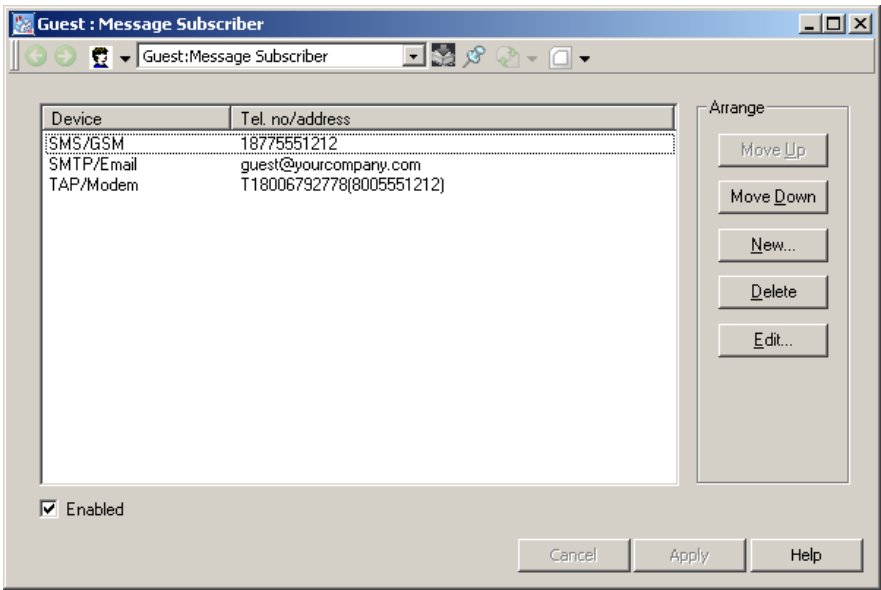

Figure 104. Configured Message Subscriber
- 24. The Message Subscriber now looks like the view shown in Figure 104.
- 25. To enable these devices, make sure the **Enabled** check box in the Message Subscriber is checked (Figure 104). To disable these devices, clear the check box. If the check box is cleared the user will not receive messages.